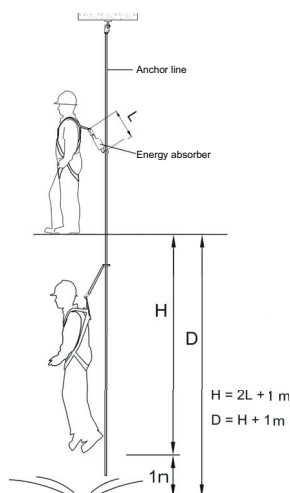

Fig. 1 Arrest distance and fall arrest clearance
- For the maximum arrest distance H and minimum fall arrest clearance D requirement, see Fig. 1 (L is the length of the energy absorber).